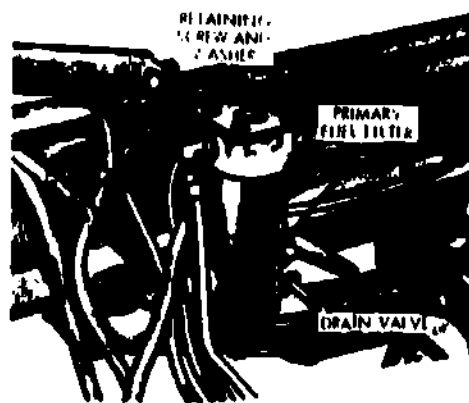

Fig 4-2. Primary filter.
c. Primary filter (fig 4-2). As you trace the fuel line you will first come to the primary fuel filter which is mounted to a frame bracket under the engine generator. This is the first filter in